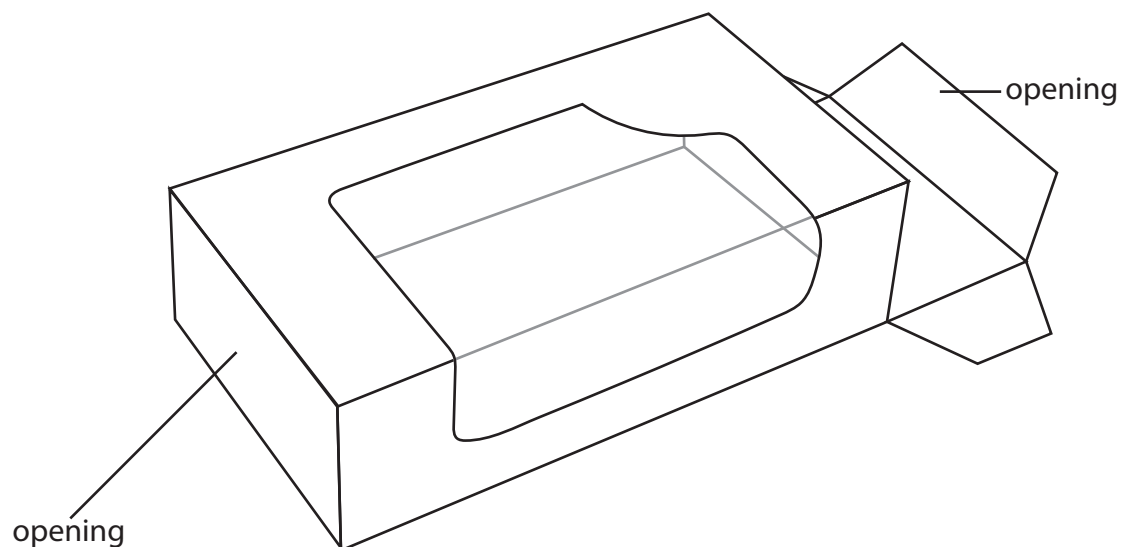

Figure 3
- 4 Figure 3 shows a mass produced box used as packaging for a child's toy.